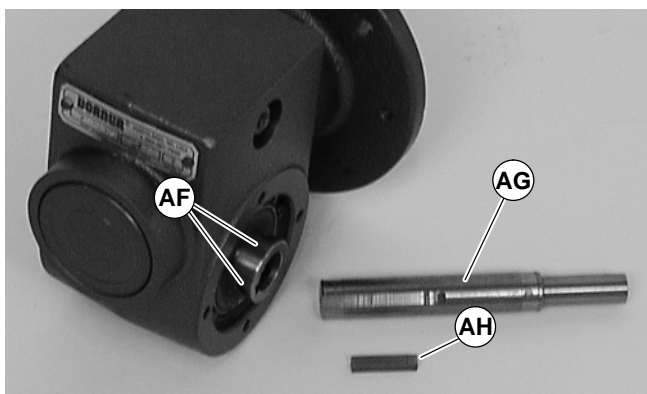

Figure 18
9. Insert the new shaft with adhesive (AG of Figure 18) and key (AH) into new gear reducer. Tighten set screws (AF) to 3 Nm.